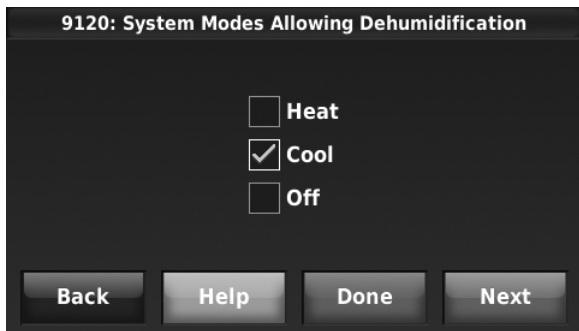

Fig. 226.
5. Select the system mode(s) to allow dehumidification. See Fig. 226.